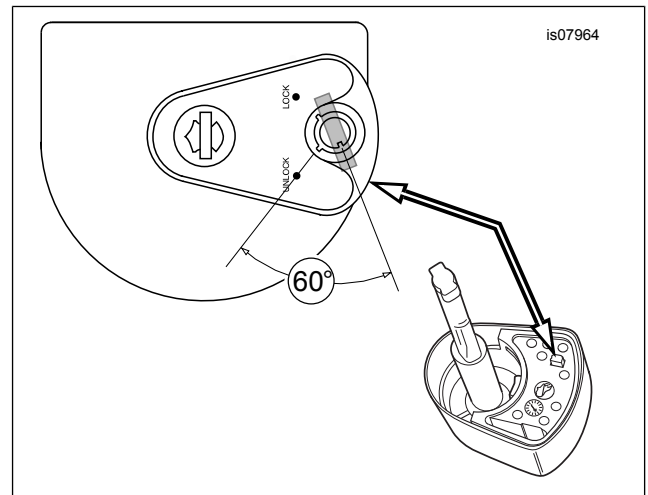

Figure 1. Ignition Switch Knob Release Button (Top and Bottom Views)
- b. See Figure 1. Rotate knob to FORK LOCK.
- c. Press and hold the release button at the bottom left side of the knob. Turn the key 60 degrees counterclockwise.
- b. See Figure 1. Verify that the button at the bottom of the knob is pressed, and key is turned 60 degrees counterclockwise from the UNLOCK position.